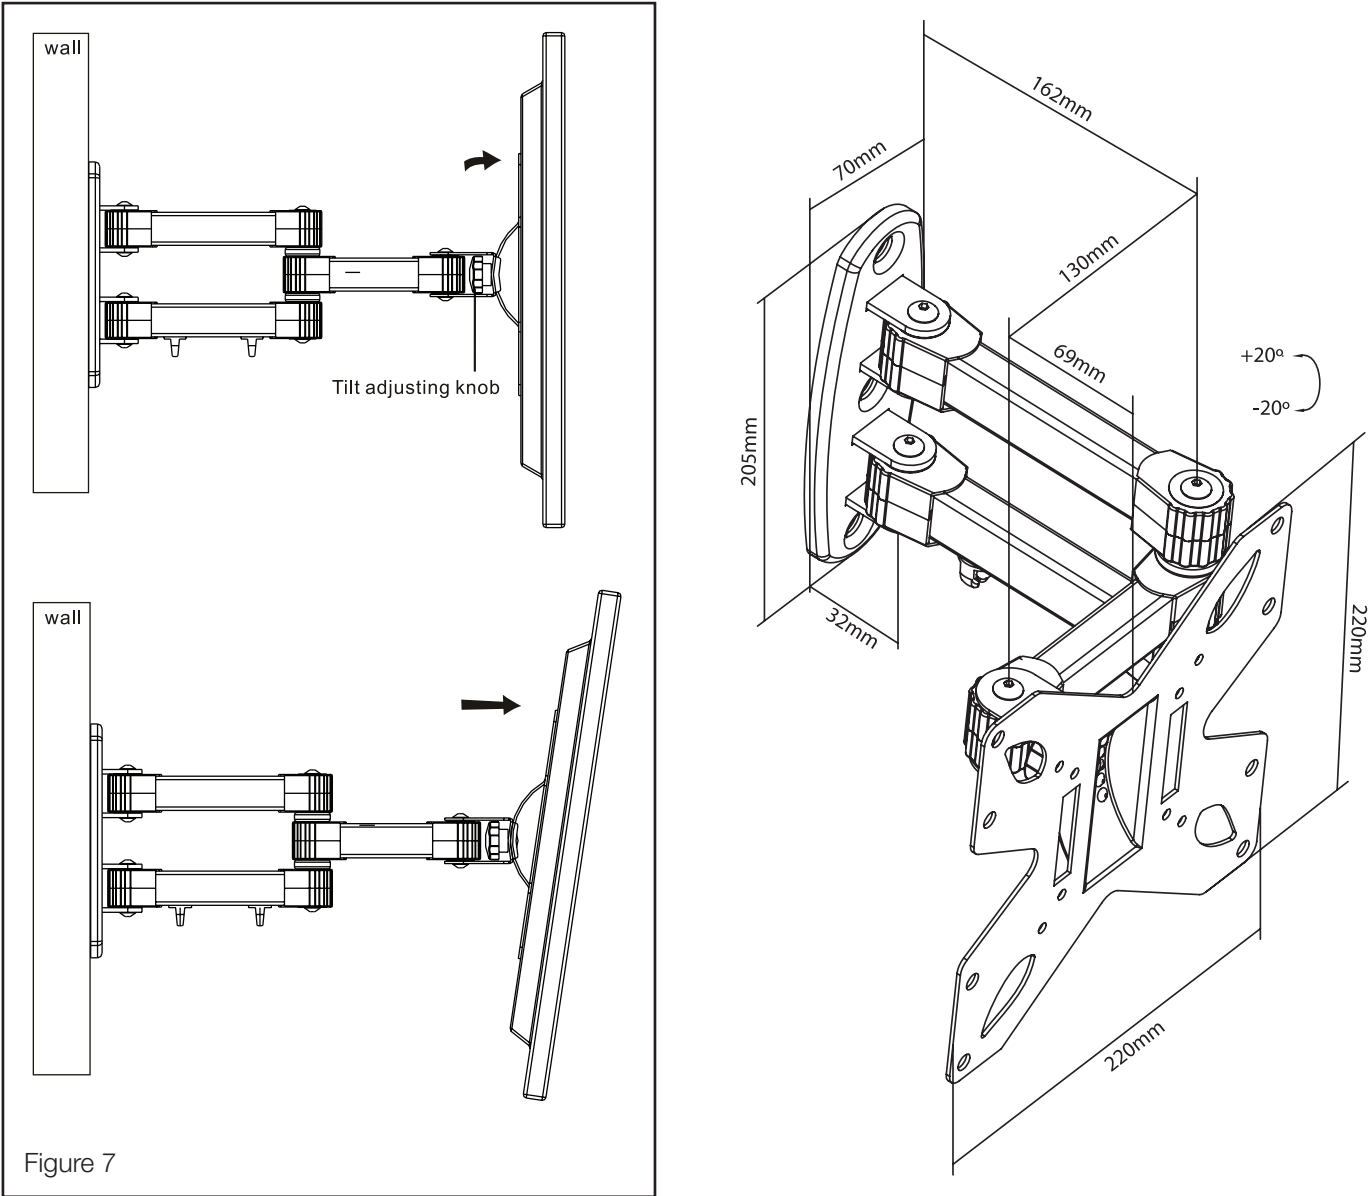

Figure 7
- 1. Use the tilt adjusting knob behind the back of the Wall Plate to adjust your TV to the desired viewing angle, the angle can be adjusted between +20° and -20° (see Figure 7).